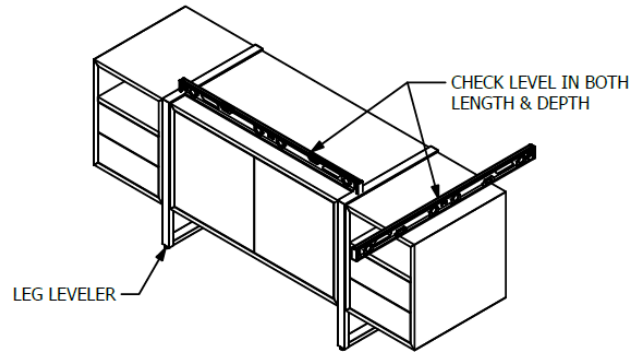

FIG. 13:
1. With Credenza is in its final position, use a level to adjust the leg levelers and level the Credenza. See Figure 13.